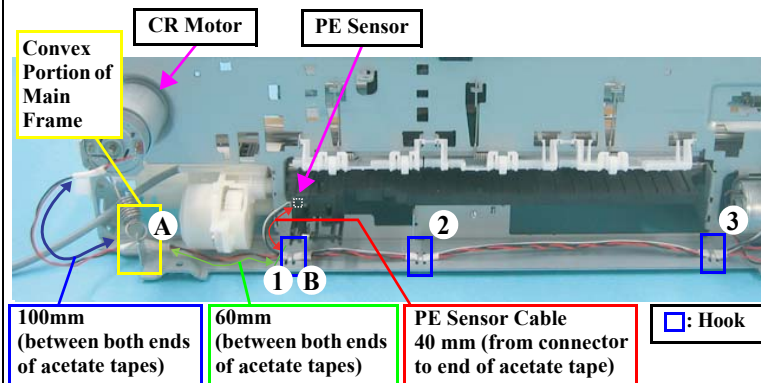

Figure 1-88. Routing the Cable
- When routing the CR Motor Cable and PE Sensor Cable, refer to Fig.1-88 and follow the steps below.
3. Route the center of the acetate tape A behind the convex portion of the Main Frame, and secure the tied cables with the hook (1) at the center of the acetate tape B so that the CR Motor Cable faces toward you.
4. Wrap the CR Motor Cable and PE Sensor Cable with acetate tapes (20 mm) at the positions of the hooks (2) (3), then secure the center of the acetate tapes with Hooks (2) (3).